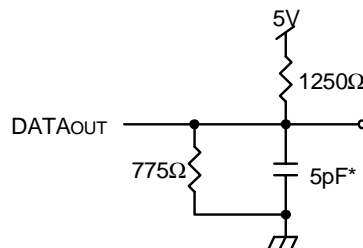

Figure 2. Output Load
1. Transition is measured 0mV from Low or High-impedance voltage with load (Figure 2).
- Transition is measured 0mV from Low or High-impedance voltage from the Output Test Load (Figure 2).